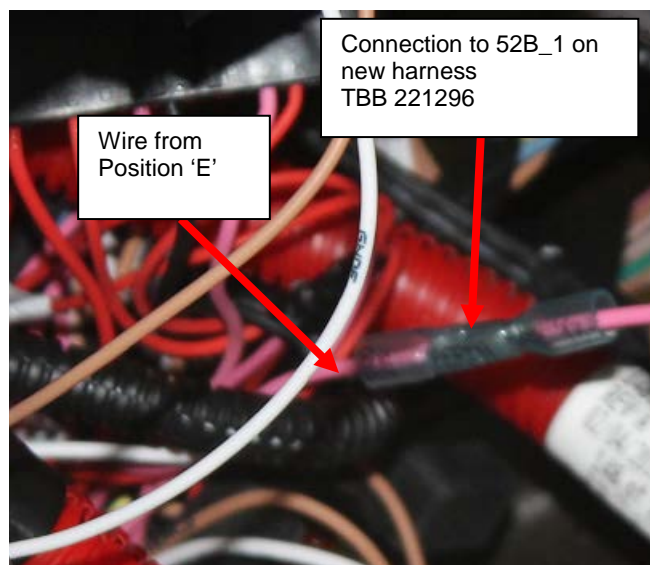

Figure 7: Installation of New Harness
6. Using a pair of wire cutters, cut the wire at Position 'E' at a distance from the plug/connector just long enough to allow placing a cap or sealing butt splice on the wire. From TBB 221296, take the wire with the butt splice (52B_1) and connect it to the end of the wire just cut from the plug. See **Figure 7**.
10. Push wire 52D_2 into the terminal at Position 'L' until it locks into place. See **Figure 7**.